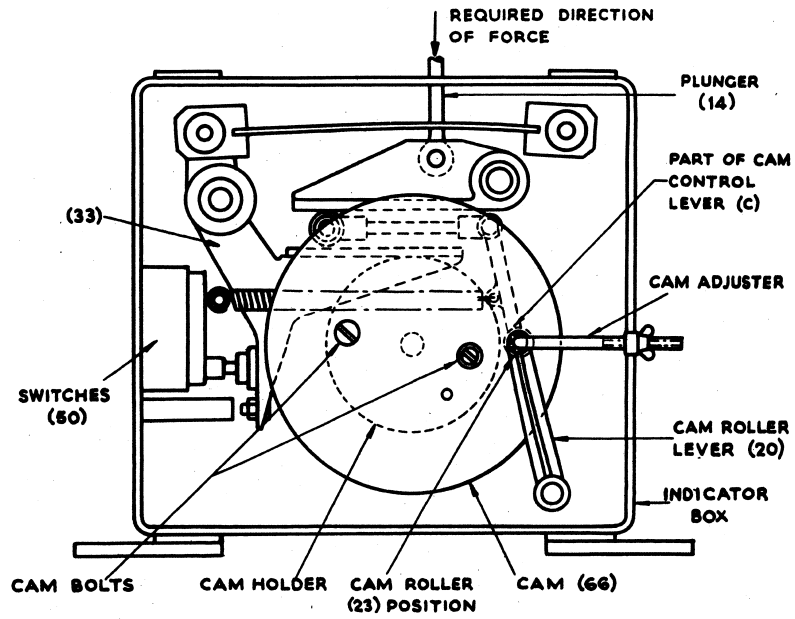
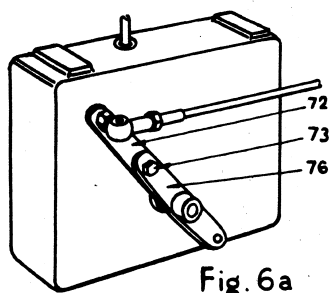
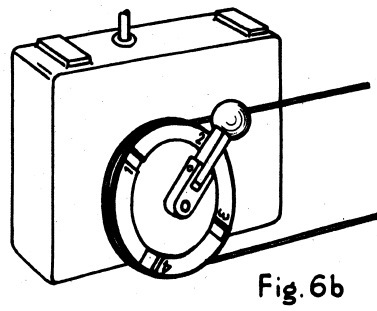
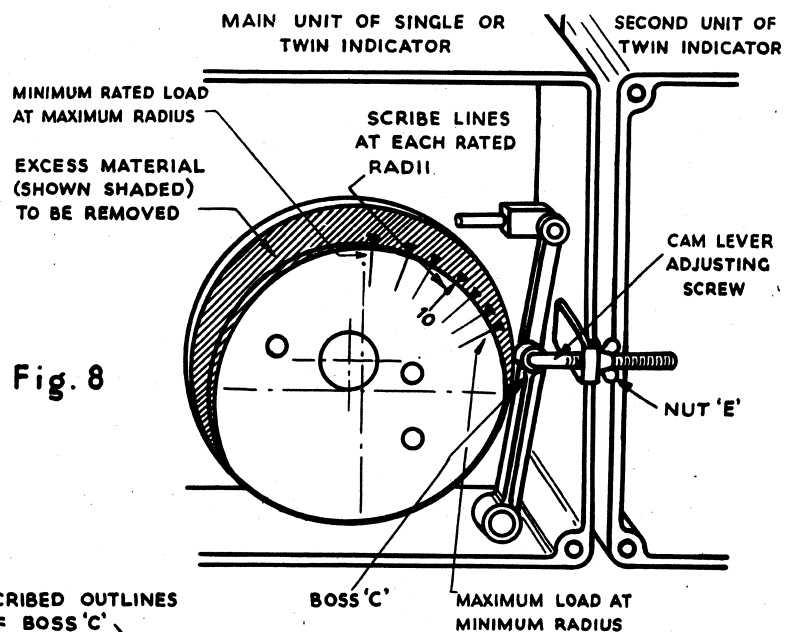

Fig. 4
Fig. 6a
Fig. 6b
Fig. 8
The DL Indicator is shown on Figure 4 and the force from the crane is applied through plunger 14 to the internal leverage system in the Indicator. The leverage system is altered by cam 66 so that depending on the point of contact of roller 23 on the cam, the switches 50 will give warning with different loads.
As shown in Figure 6a and 6b, the Indicators may be fitted either with a gear lever to select a different cam sector, or alternatively for a 2, 3 or 4 armed lever, pinned by fixing screw 73 to the cam control lever 72 (see Figure 6a). Both gear lever and star lever can be rotated to different positions to select a new sector of the cam for a different load curve.
With single Indicators on cranes, having only two different rated conditions, e.g. a crane having only one boom used with blocked and free on tyres load curves, the cam control lever 76 has only two arms. In this case attachment of the cam control lever 72 (Figure 6a) to either arm brings into operation either the blocked or free on tyres sector of the cam. On cranes having several boom lengths a 2, 3 or 4 arm cam change lever (item 76, Figure 6a) is fitted to the Indicator so that there may be up to four different sectors of the cam available for the different boom lengths. When the sectors have been used for particular load curves, further sectors must be cut on a new cam. Where this is necessary it is desirable to have a summary chart in the driver's cabin; similar to that shown on page 14 defining the cam sectors and different cam numbers required for each boom length.
To test that the Indicator has been correctly wired, lever 33 (Figure 4) can be pushed clockwise until it operates switches 50. The amber light is operated by the front switch and the red light and bell by the rear switch. On modern Indicators the striker for the red switch is adjustable but this must only be altered after carefully reading the section of these instructions headed "Load Test".
Unless specified by the maker it is best to test the Indicator first with the minimum boom length and also to start with the highest rated crane loadings. With twin Indicators normally the Indicator furthest from the jib head is the one which should be used for the heaviest rated loads. Any deviations from this ruling will be shown on the General Arrangement drawing. The positions of the lever 76, or the gear selector lever, shown in Figure 6a and 6b, must be clearly marked for each cam sector which is cut. It is normal also to stamp the sector of the cam which is cut with the duty concerned, e.g. 15 m boom length on outriggers.
To avoid damage to the Indicator it is delivered with the cam roller removed and it is most important that the first part of the test is completed before the cam roller is fitted. Cutting the cam without the roller in position is possible by treating the portion of lever 20 marked C in Figure 4 as if it were the roller. This permits the position of the cam roller to be scribed on the cam blank prior to cutting and the approximate point of contact of the roller can thus be marked on the cam blank. During the test load, lever 20 can be held in different positions by fitting the hook bolt supplied with the Indicator, in the manner shown in Figure 8.
With the boom at minimum radius (boom hard in) the appropriate Test Load for this radius should be lifted with the hoist block reeved to the correct number of falls for that load and position of cam lever 20 adjusted until the red light just shows. A mark should be made, on the face of the cam by scribing round the boss C of the lever 20 and also scribing a radial mark approximately where the cam roller would make contact with the same as shown in Figure 8. If the same load rating also applies to a greater radius than the minimum radius then the above test must be repeated at the new radius and also at intermediate points as considered necessary.
Each end of the cut portion of the cam should be extended 6 mm at the same radius as the last mark. If the Indicator has to be adjusted for only one condition a curve is drawn as shown in Figure 8 and the shaded portion removed, but if it has to be adjusted for more than one condition, e.g. blocked or unblocked, or for different lengths of boom, then the cam roller should be removed before proceeding further. With the test and arm 76 (see Figure 6a), or the selector lever (see Figure 6b), should be rotated to a different position bringing a fresh part of the cam adjacent to the cam roller. The complete test should then be repeated with the new load ratings and when the surface of the new cam has been finally completed it can be merged into the previous cam surface by a smooth curve. Figure 12 shows the correct trimming of a combination cam with two working conditions.